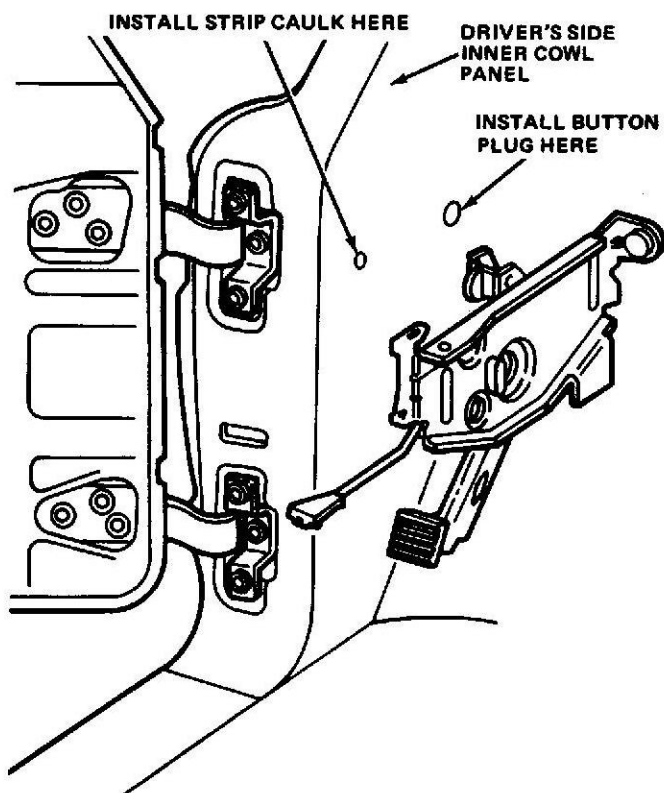

Fig. 3
(1) Open driver's side door and view inner cowl panel through upper hinge pocket in area where instrument panel lower attaching bolt is located (Fig. 3).
(2) Locate weld nut hole in cowl panel that is approximately 3-inches above and 1/2-inch to rear of instrument panel lower attaching bolt (Fig. 3).
(3) Plug weld nut hole using 3M Strip-Caulk or equivalent.
(4) Plug 1/2-inch hole in inner cowl panel located above parking brake assembly. Plug hole using button plug (Fig. 3).
(5) Repeat steps (1) through (3) on passenger side inner cowl panel.